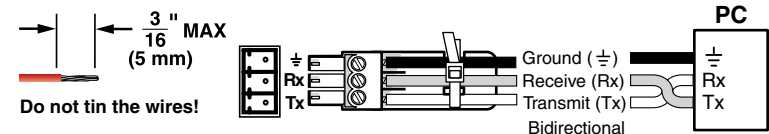

Figure 2-7 — RS-232 connector
- ⑫ **RS-232 connectors** — Connect one or two host devices to these 3-pole captive screw connectors for serial RS-232 (figure 2-7).